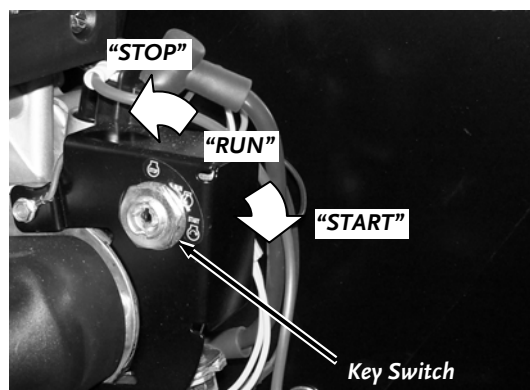

Figure 21
4. Insert the Key into the Key Switch and turn the Key to the “START” position until the engine starts, then release it (**Figure 21**). The Key Switch will snap back to the “RUN” position and the engine will continue to run.